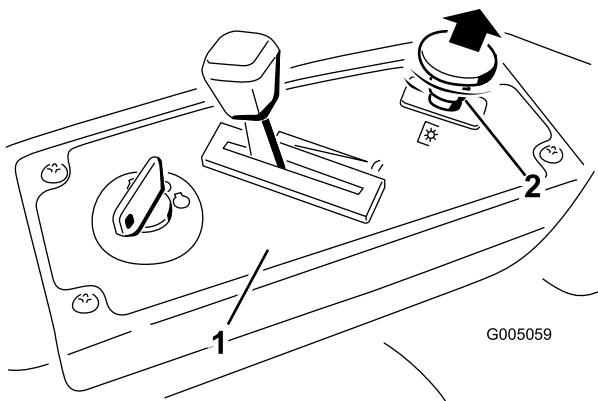

Figure 18
- Pull up on the blade control switch to move it to the On position and engage the blades (Figure 18).